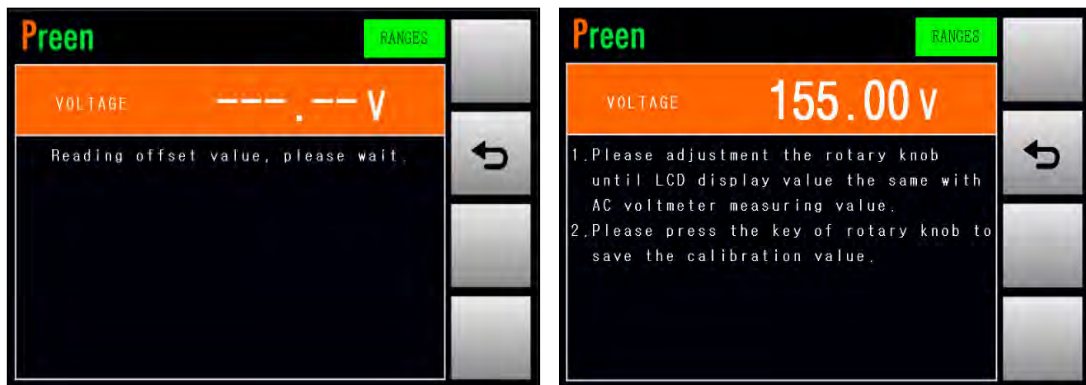

Figure 4.8 Enable the calibration of the LO-Range voltage 155V
3. Press the output & reset button on the front panel to enable the calibration of the LO-Range voltage 155V (refer to Figure 4.8), and then the product will start to output the voltage which is closed to 155V.